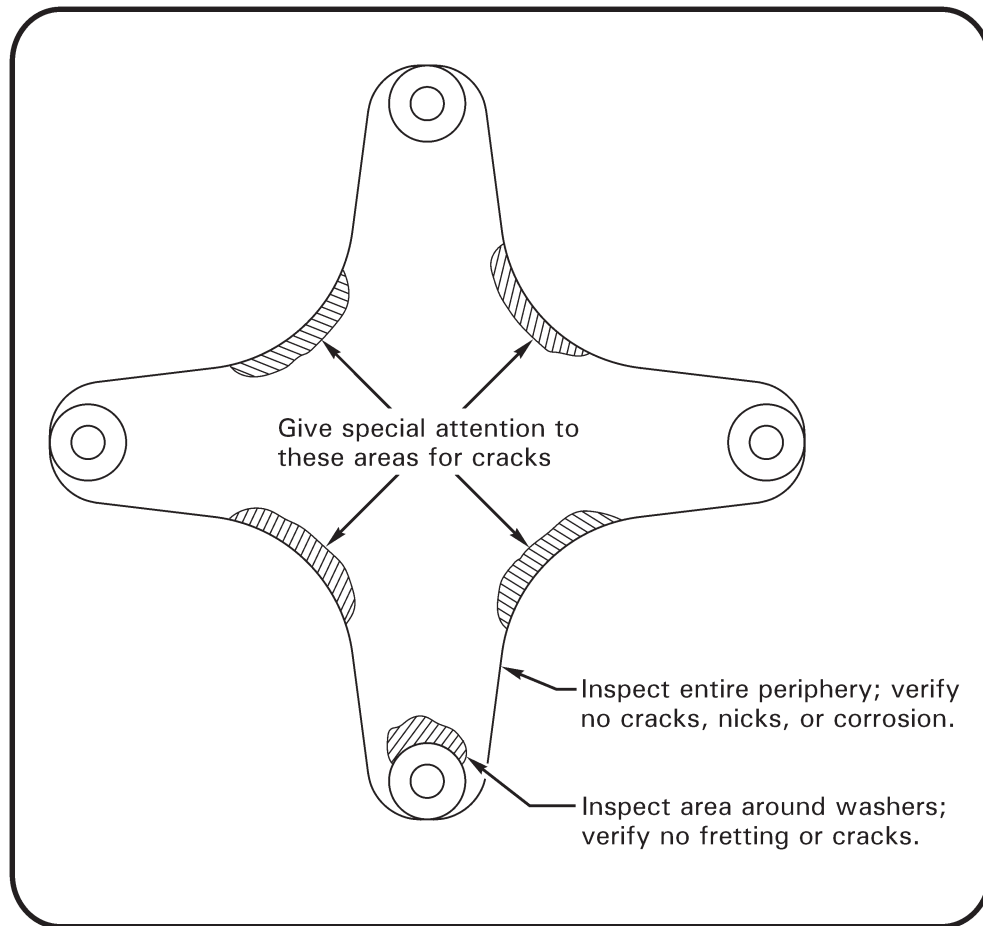

FIGURE 2-4B A947-1 FLEX PLATE INSPECTION
**Forward Flex Plate:** Refer to Figure 2-4B. Inspect condition. Verify no distortion, nicks, scratches, cracks, corrosion, or fretting. If fretting is detected, contact RHC Technical Support. Verify bonded washers are installed on both sides of each flex plate ear. Verify proper installation, security, and operating clearance.
**Intermediate Flex Plate and Yokes:** Refer to Figure 2-4B. Inspect condition. Verify no distortion, nicks, scratches, cracks, corrosion, or fretting. If fretting is detected, contact RHC Technical Support. Verify bonded washers are installed on both sides of each flex plate ear. Verify proper installation, security, and operating clearance.